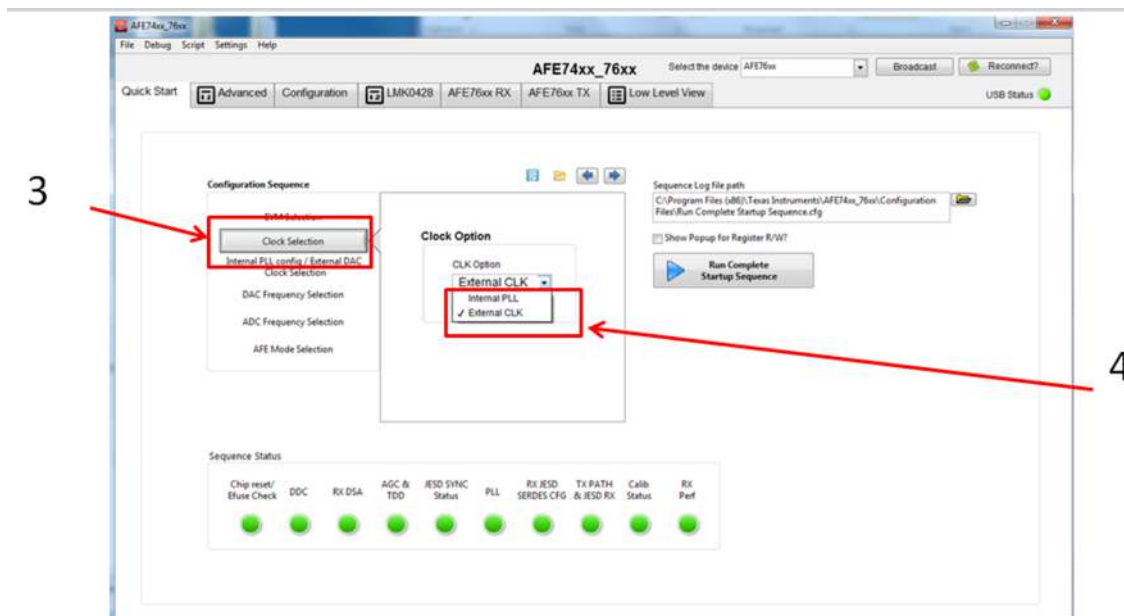

Figure 10. External Clock Selection Page
3. Navigate to the *Clock Selection* page, labeled as 3 in Figure 10
4. Under the *CLK Option* drop-down menu, select *External CLK*, labeled as 4 in Figure 10.